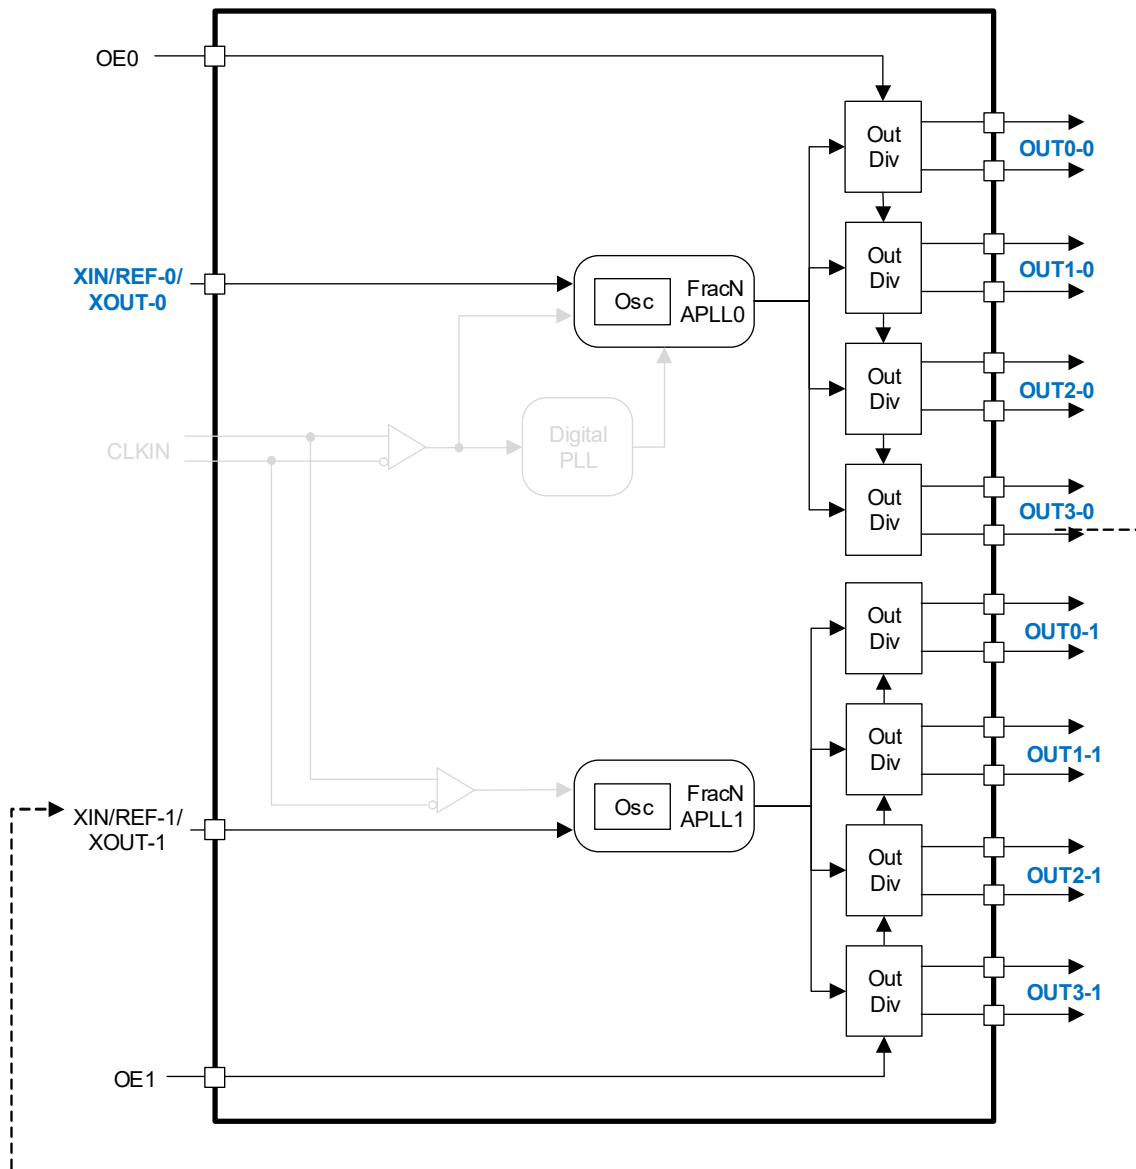

Figure 5. Clock Generator Mode with RC32508A when External Crystal fed into XIN/REF-0/XOUT-0
| Figure 5. Clock Generator Mode with RC32508A when External Crystal fed into XIN/REF-0/XOUT-0 .....          | 8  |
- As shown in Figure 5, up to two frequency domains can be obtained in this configuration and up to seven differential outputs and 1 LVCMOS output can be obtained.